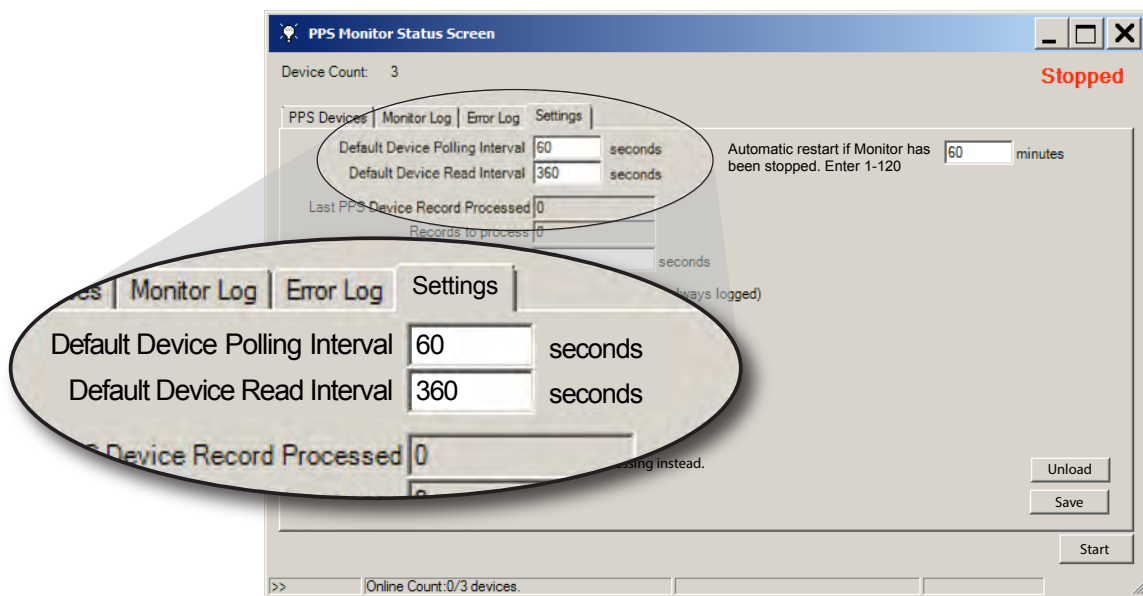

Figure 77. PPS Monitor Status Screen: Settings. Changing the default device polling and read intervals.
3. Change the number of seconds for either interval (see Figure 77).